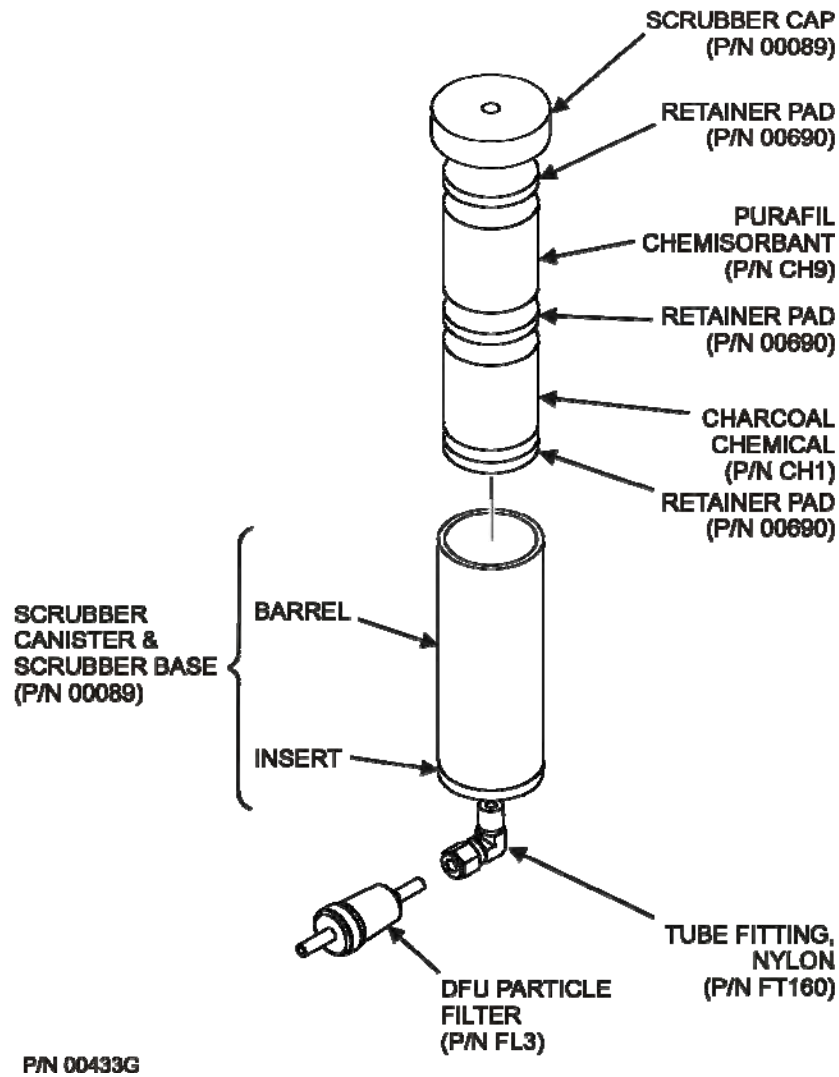

Figure 13-4: Zero Air Scrubber Assembly
1. Locate the scrubber on the outside rear panel; Figure 13-4 shows the exploded assembly.
- Use three, white retainer pads to separate the chemicals as shown Figure 13-4